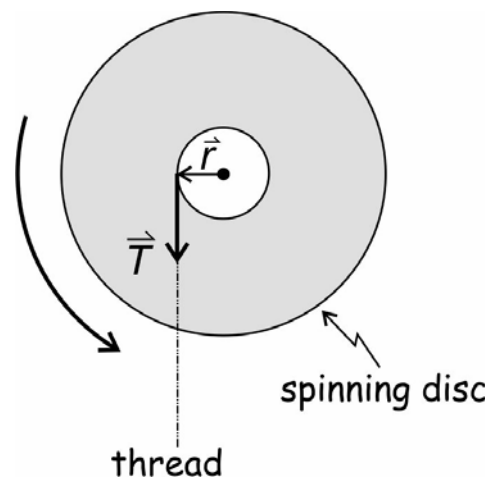
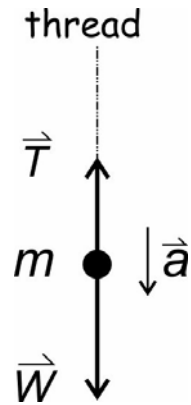
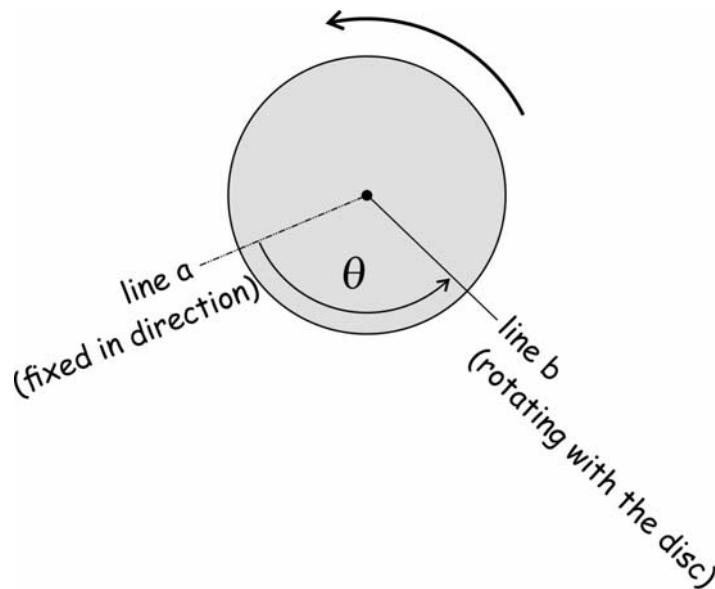

Fig. 2 The applied torque on the disc.
Fig. 3 Masspieces going down.
Fig. 4 The angular position of the rotating disc.
where r is the radius of the pulley mounted on top of the disc - **figure 2**. The same tension is applied to the hanging mass-pieces of mass m , as they move with an acceleration $\vec{a}$ downwards - **figure 3**. Applying Newton's second law to the accelerating mass we get
- see **figure 3**. The angular position, θ (in radians), of the disc is measured with respect to a line that remains fixed in a certain direction, line a in **figure 4**. The angular position of the disc is then the angle that a chosen line, rotating with the disc, line b in **figure 4**, makes with line a. The angular position of the disc continually increases as the disc spins around, since the angle between line b and line a increases with time. Note that the angular position does not revert back to zero when line b passes line a again.